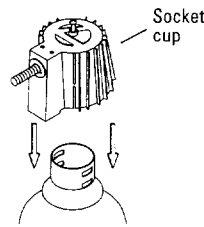

Figure 1
1. Attach socket cup to top of reflector by aligning and engaging spring in socket cup with slots in top of reflector as shown in Figure 1. Lamp type and wattage markings are located near the slots in top of reflector or refer to Figure 2 for proper positioning of socket cup for optimum light distribution.
4. Attach socket cup to top of reflector by aligning and engaging spring in socket cup with slots in top of reflector as shown in Figure 1. Lamp type and wattage markings are located near the slots in top of reflector or refer to Figure 2 for proper positioning of socket cup for optimum light distribution.
2. Attach socket cup to top of reflector by aligning and engaging spring in socket cup with slots in top of reflector as shown in Figure 1. Lamp type and wattage markings are located near the slots in top of reflector for proper positioning of socket cup for optimum light distribution.